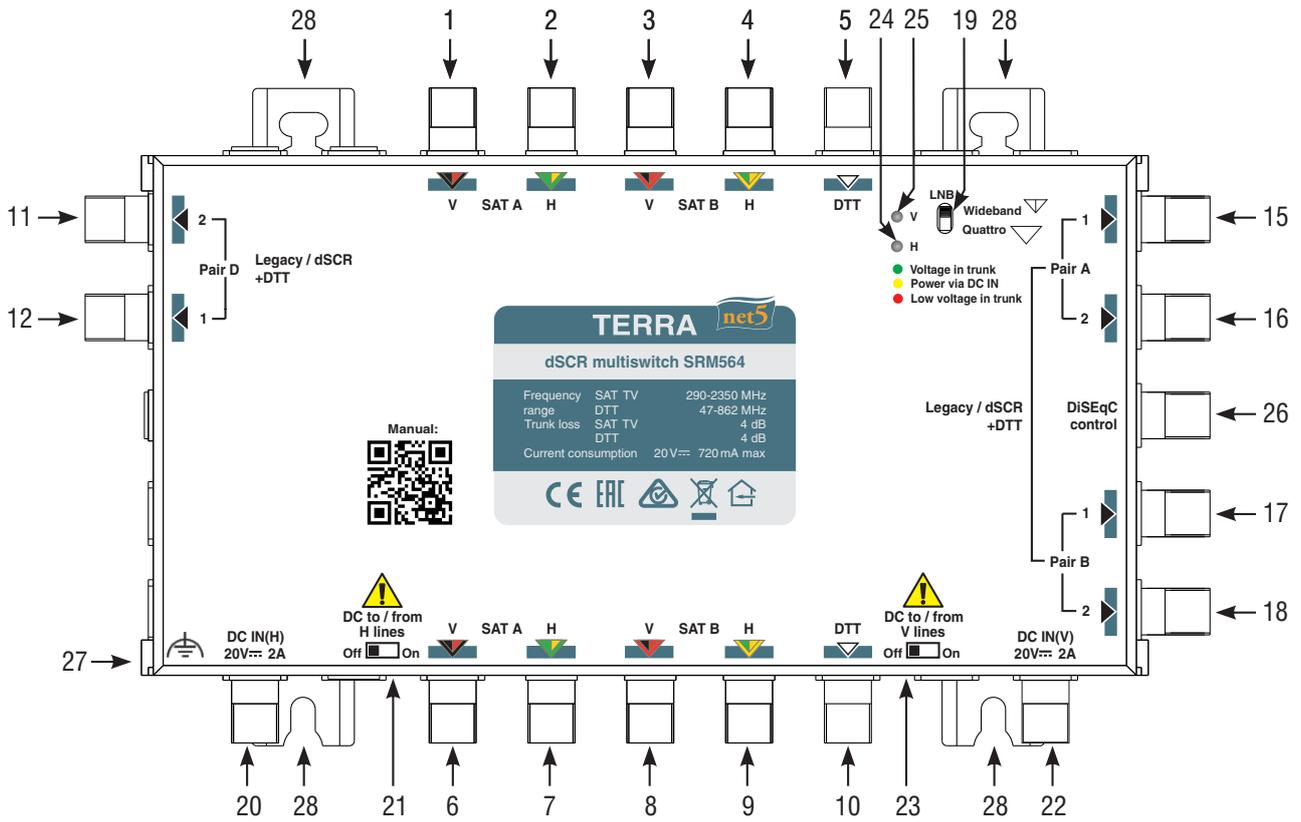

Figure 1. External view of the multiswitch SRM564
The multiswitches have 2 DC input ports for expanded SAT IF distribution system feeding options and dedicated control/configuration port (see Figure 1 and chapter „Installation instructions”).
**DO NOT OPERATE THE DC POWER TO H or V TRUNK LINES SWITCHES** (see Figure 1, pos. 21, 23) unless you totally understand the power demands of the system and confirmed they are 3.2 A total or less per H or V lines. **ALWAYS LEAVE THE DC POWER TO H or V TRUNK LINES SWITCHES IN THE “OFF” POSITION** when inserting the SRM564, SRM584 and SRM564T, SRM584T into an existing multiswitches installation.
- All outputs are configured to connect legacy STB (supports +13V/+18V/22 kHz signals), but it switches to dynamic mode SCR/dSCR if receives a DiSEqC command according EN50494/EN50607. Output User Bands (UB) are the same in all subscriber outputs (see Table 3).
- DC power to H / V trunk lines switches set (see Figure 1, pos. 21, 23) in position **"OFF"**.